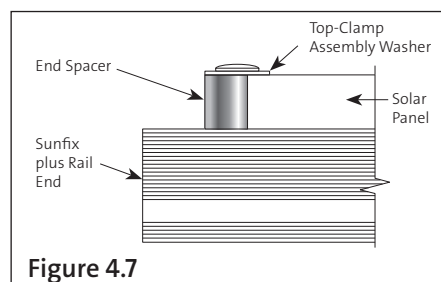

Figure 4.7
- 4.7. At the row end, insert End Spacers ③ between the Top-Clamp Assembly's washer and Sunfix plus Rail, as shown in **Figure 4.7**. Tighten these outer Top-Clamp Assemblies to 15 ft-lbs using general purpose anti-seize compound, or if using WEEBs, tighten to manufacturers specifications (EC0534 WEEB DPF requires 12 ft-lbs).